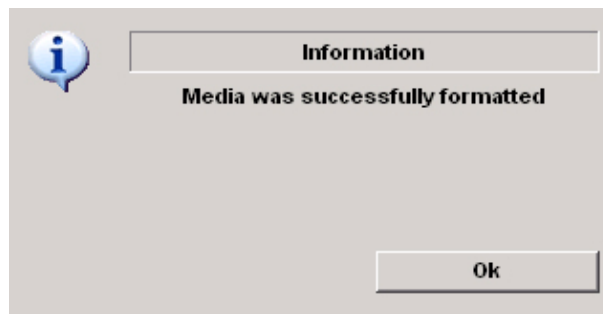

Figure 4-64 Archive Operation Complete Message
- 9.) Press OK. An in-progress message appears. The archive operation is complete when you receive the message shown in Figure 4-64 on page 4-31 .